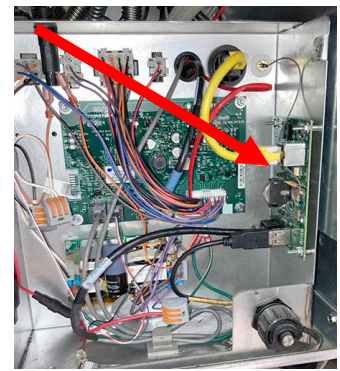

Figure 6
5. The KCCM board is located on the right side or rear of the FIB box (see Figure 6) depending on date of manufacture.